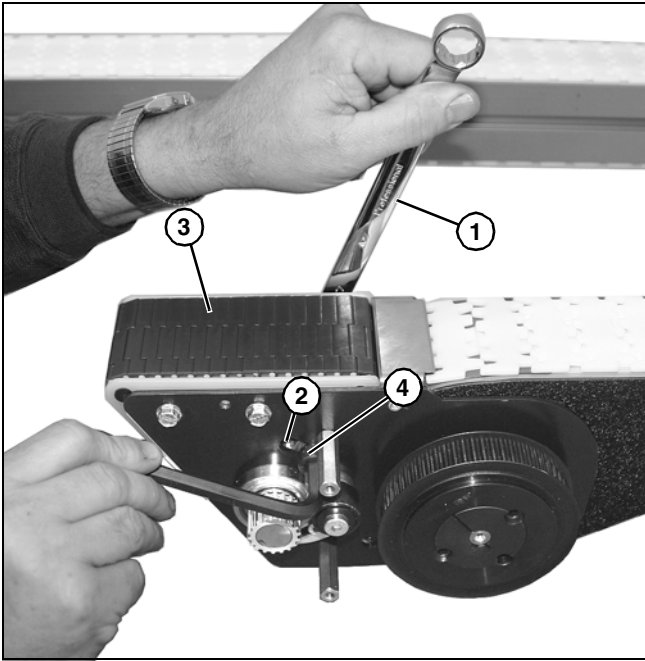

Figure 109
8. While holding onto nut with a wrench (**Figure 109, item 1**), slide assembly within slot (**Figure 109, item 2**) to remove excess slack from belt (**Figure 109, item 3**). Tighten hex head screw (**Figure 109, item 4**).